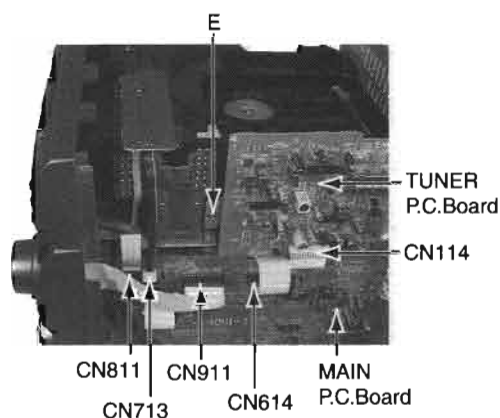

Fig 4
3. Remove screw E on the right side. (See Fig.4)
4. Three flat wires are removed from CD changer mechanism assembly. (CN713.CN811.CN614) (See Fig.4)
6. Disconnect the connector CN114 of the TUNER P.C.Board.(See Fig.4)